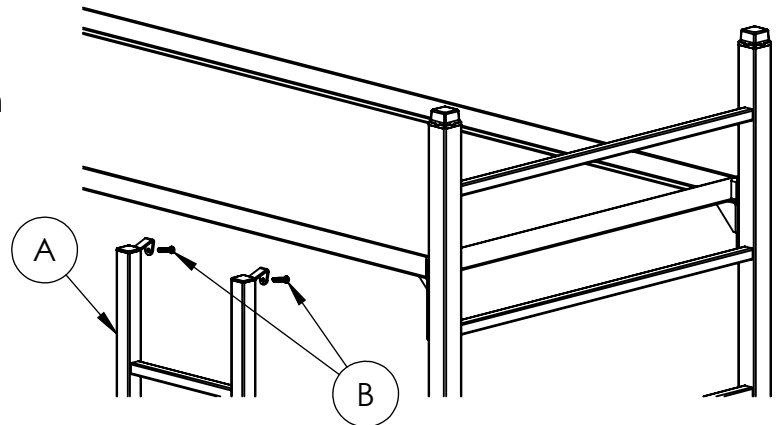

Fig. 1
1. Assemble (2) 5/16-18 Screws (B) into the threaded holes in the tabs at the top of the Ladder (A). Do not tighten all the way (Fig 1).